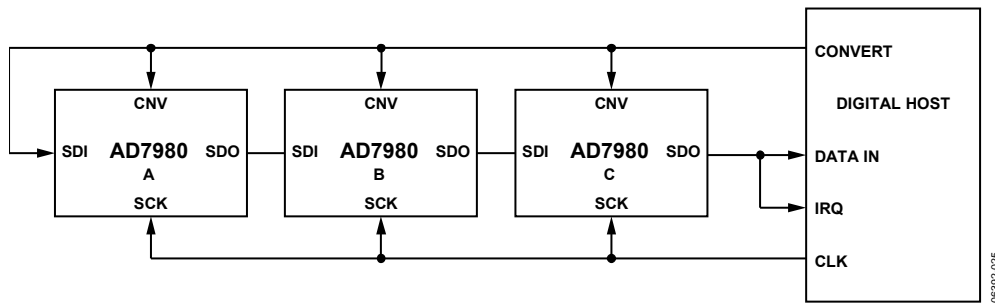
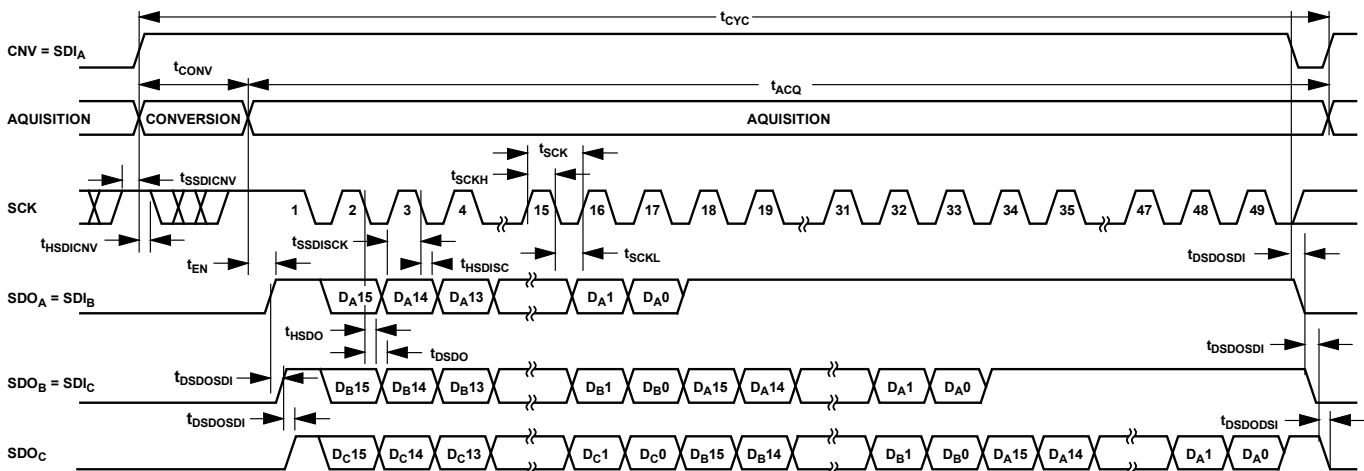

Figure 41. Chain Mode with Busy Indicator Connection Diagram
Figure 42. Chain Mode with Busy Indicator Serial Interface Timing
- In the chain mode if SCK is high during the CNV rising edge (see Figure 42).
A connection diagram example using three AD7980s is shown in Figure 41, and the corresponding timing is given in Figure 42.
When SDI and CNV are low, SDO is driven low. With SCK high, a rising edge on CNV initiates a conversion, selects the chain mode, and enables the busy indicator feature. In this mode, CNV is held high during the conversion phase and the subsequent data readback. When all ADCs in the chain have completed their conversions, the SDO pin of the ADC closest to the digital host (see the AD7980 ADC labeled C in Figure 41) is driven high. This transition on SDO can be used as a busy indicator to trigger the data readback controlled by the digital host. The AD7980 then enters the acquisition phase and powers down. The data bits stored in the internal shift register are clocked out, MSB first, by subsequent SCK falling edges. For each ADC, SDI feeds the input of the internal shift register and is clocked by the SCK falling edge. Each ADC in the chain outputs its data MSB first, and $16 \times N + 1$ clocks are required to readback the N ADCs. Although the rising edge can be used to capture the data, a digital host using the SCK falling edge allows a faster reading rate and, consequently, more AD7980s in the chain, provided the digital host has an acceptable hold time.